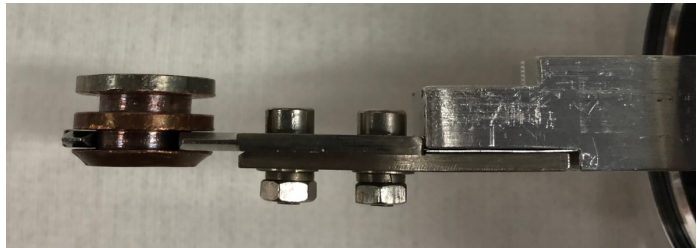
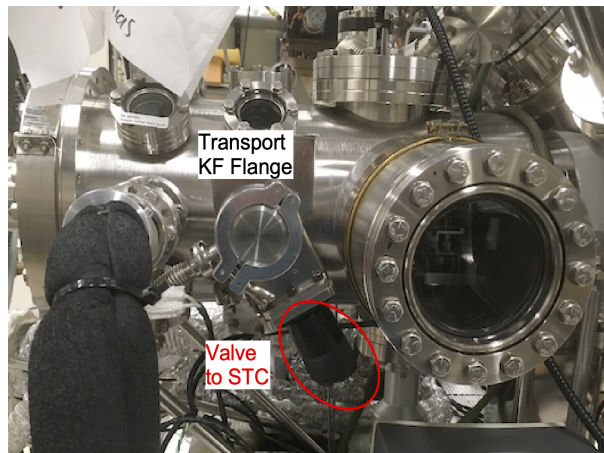

Figure 1 Puck mounted on portable transport arm claw.
Figure 2 Valve to STC and Transport KF Flange.
The portable sample transfer suitcase is designed to allow transfer of samples from inert atmosphere directly into UHV without exposure to air. It is only compatible with sample pucks or pots. The suitcase arm loads onto the quickflange port on the south side of the STC facing the door, Figure 2. It is mounted with the gate valve oriented vertical up, so the valve actuator mechanism is at 12 o'clock. **Be careful with the Hand Valve to the STC, Figure 2, where the Transport arm gets attached. This valve is not interlocked and a mistake could lead to venting of the STC (SAC).**
- (1) Always keep the transport arm capped to avoid damage to the KF mount (when not attached to anything).
- (2) You need to mount your sample on a puck in an inert atmosphere.
- (3) Place the PTS into the inert atmosphere box.
- (4) Open the PTS's gate valve and with the valve actuator oriented at 12 o'clock, move the claw out of the arm so it can be accessed.
- (5) Mount the puck with your sample on the portable transport arm claw using the bottom groove (Figure 1), such that the sample faces up with the gate valve actuator mechanism at 12 o'clock. Be careful not to damage the pin at the end of the claw that holds the puck in place. Ensure the sample is secure, since the puck will be vertical during sample transport.
- (6) Hold the suitcase arm such that the VAT label on the valve is oriented up while transferring the arm to the Kratos. In this orientation, the sample is vertical, but the claw holds the puck from beneath. Holding it the wrong way may cause the sample to fall out during transport. Use the screw on the end of the arm to lock the magnet in place during the transfer.
- (7) When you arrive at the Kratos, check that the pressure in the STC is $< 10^{-8}$ Torr and that the Load Lock, LL, Turbo is running. If not start it up and wait till the LL pressure is $< 10^{-7}$ Torr.
- (8) Check that the valve to the STC is closed by turning the valve clockwise (the one attached to the KF Flange that faces down), Figure 2. **TAKE CARE: there are no interlocks on the**
- (11) Attaching the Transport arm to the Transport KF Flange, Figure 2:
- a. Remove the cap from the transport KF flange and from the PTS arm port, Figure 2.
- c. Fasten the arm with the clamp for the KF with the bolt/screw facing down, Figure 2.
- d. **ONLY THEN** it is safe to open the valve to STC (the one facing down), Figure 2. If a, b or c is not open **STOP HERE** and restart from step (6).
- (23) Close valve to STC (the one facing down, Figure 2), **make sure that it is fully closed.**
- (24) Close the regular LL/STC gate via the computer.
- (25) Check that the pressure in STC goes back to normal (if not the manual valve might still be open, close it.)
- (26) When pressure is low enough $<10^{-8}$ Torr, you can transfer your sample into the SAC as described above.
- (27) To remove the transfer arm from the Kratos.
- a. Make sure the valve to the STC is closed, Figure 2.